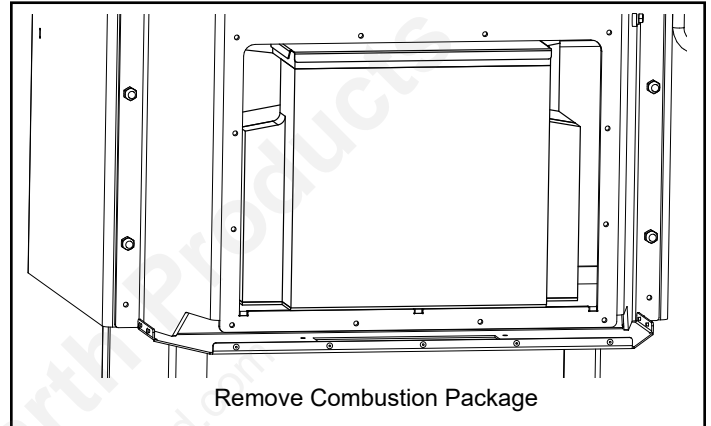

Figure 4
4. Slowly pull on combustion package and remove from the combustion cavity. Figure 4.